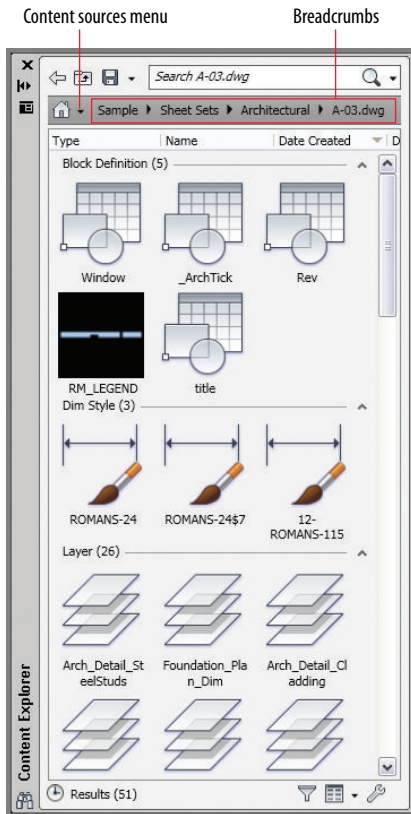

FIGURE 9.16 Content Explorer showing content within a specific drawing
4. Double-click the **Sample** folder that appears in the Content Explorer. Then double-click **Sheet Sets**, **Architectural**, and **A-03.dwg**. The Content Explorer shows all the block references, block definitions, layers, layouts, and styles present in the drawing (see Figure 9.16).